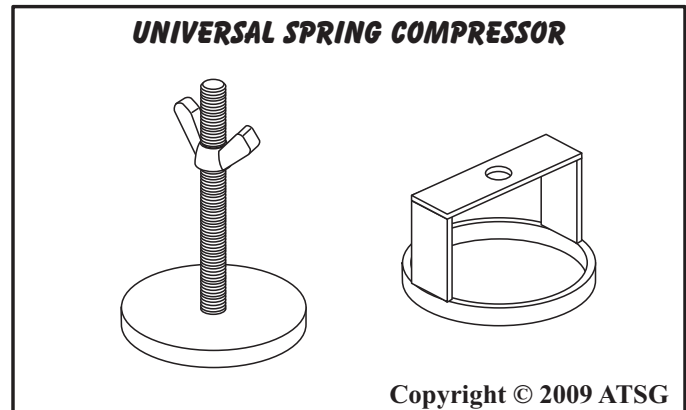

Figure 68
71. Install universal spring compressor through the rear of case to compress the return spring for the low coast brake and forward brake clutch pistons, as shown in Figure 68.